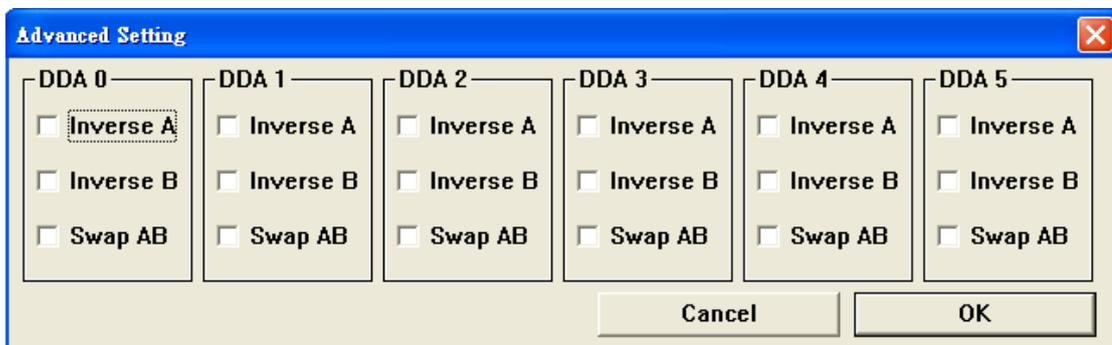

Figure 4-3.2
(4) Set DDA pulse format (as shown in Figure 4-3.2)